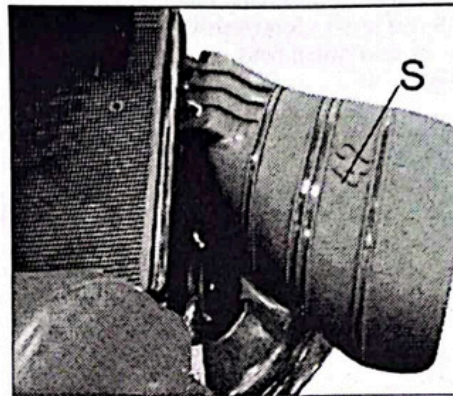

FIG.15
CAUTION: Do not operate the mower without the deflector shield (S) in place or mulch plate (See Fig. 15).